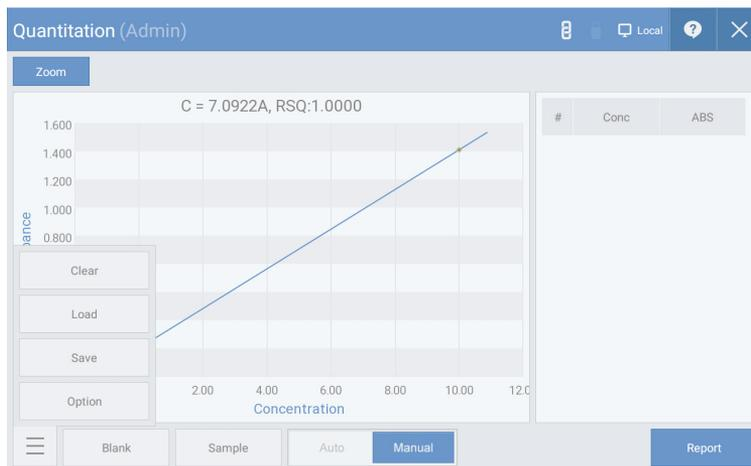

Fig. 3.11
1. Select the standard curve to use from [Fig. 3.11]. * Refer to “How to Create Standard Curve” if there is no standard curve.
2. Load the blank sample and click “Blank” shown in [Fig. 3.11] to measure the zero point.
4. Load the sample and click the “Sample” button shown in [Fig. 3.11] to begin measurement.